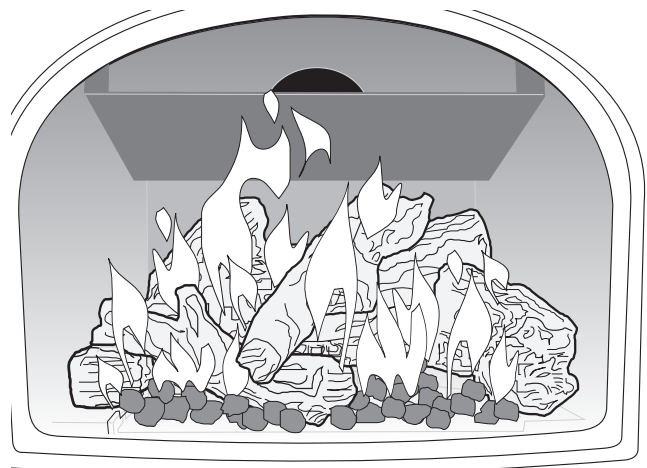

Figure 39. Flame appearance on the "high" setting after approximately 15 to 20 minutes burning.
**3. BURNER ADJUSTMENT:** This stove is equipped with a variable gas control valve that allows easy adjustment of the flame height appearance and heat output. To adjust the flame between the HI and LOW setting, rotate the HI/LOW knob, located in the center of the valve face. **Flame height will adjust approximately 1" to 2" between the LOW and HIGH settings. See fig. 39.** NO SMOKE OR SOOT SHOULD BE PRESENT. CHECK LOG PLACEMENT IF ANY SOOT OR SMOKE IS PRESENT. IF SOOT OR SMOKE PERSISTS, THE AIR SHUTTER MAY NEED TO BE ADJUSTED.